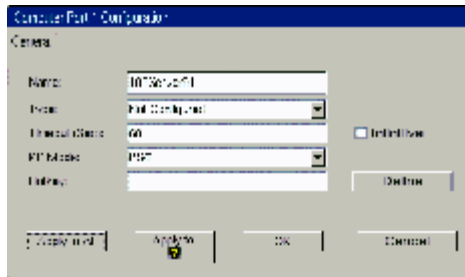

Figure 42 Computer port configuration box
- Click a Server port. The Computer port configuration box appears, see Figure 42.